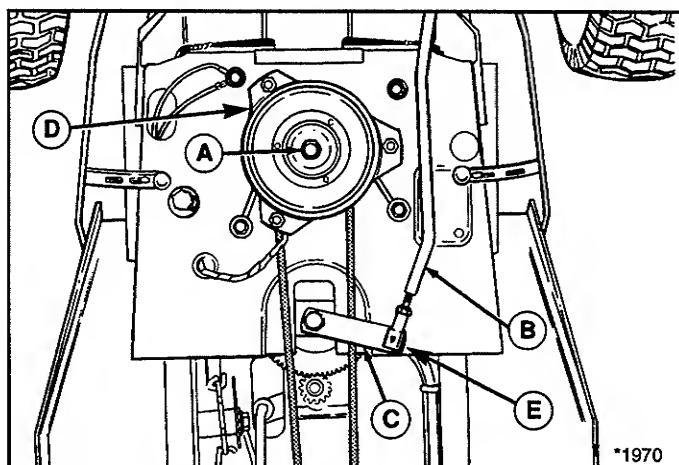

Figure 35. Drive Belt PTO Pulley
- See figure 35. To remove belt from engine pulley, the PTO (electric clutch) must be removed and the belt slid over the top of the pulley. Disconnect the PTO wire. Remove the capscrew (A) along with the hex washer and lockwasher securing the PTO to the engine crankshaft. Slide belt over the top of the engine pulley.
6. See figure 35. On left-hand side of tractor, remove nut from capscrew (E) securing drag link (B) to steering arm (C). Drop old belt below drag link. Route new belt above drag link before re-installing nut on drag link, then tighten nut.